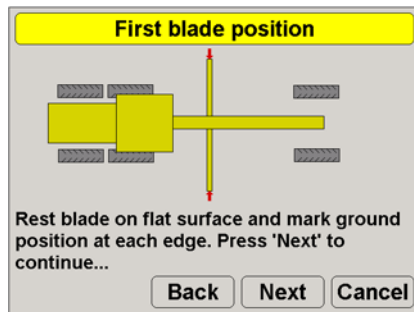

Figure 4-5. First Blade Position
3. Press **Next** (Figure 4-5 on page 4-5). Place the cutting edge so it gently rests on the ground, and mark the ground position at each edge.